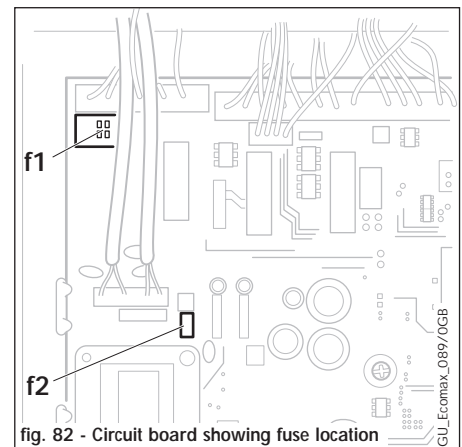

fig. 82 - Circuit board showing fuse location
3. **Note:** If the boiler display is completely blank initially check the two fuses (f1 and f2, fig. 82). (Isolate the electrical supply before checking the fuses). (Spare fuses are located on the inside of the control box rear cover).